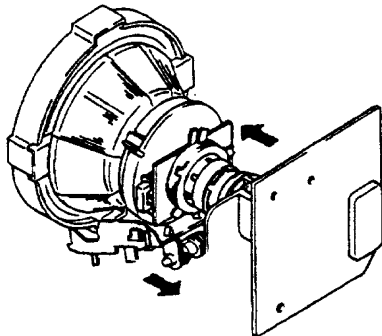

Fig.3-1
4. Move the deflection yoke to the rear and adjust with the purity control so that the red is at the center and the blue and the green take up equally sized areas on each side. (See Fig.3-1 - 3-3)
5. Move the deflection yoke forward and adjust so that entire screen is red. (See Fig.3-1)